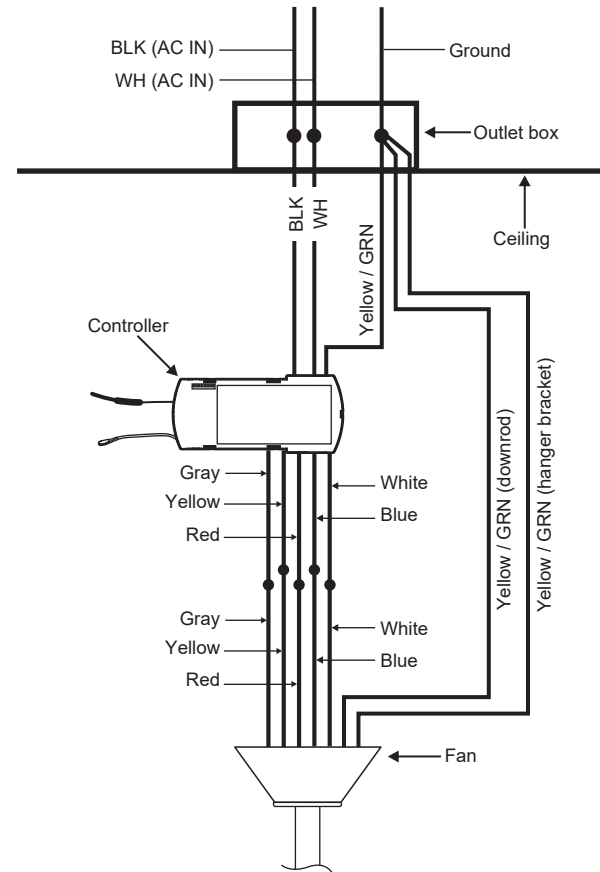

Fig. 12
Step 1. Make wire connections from the fan to the controller unit. For this step use the bundle of 5 wires on the controller. (Fig. 12)